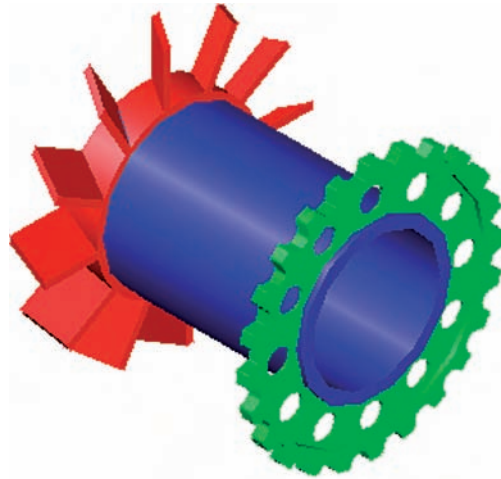

Fig. 16.28 First example – **Printing a single copy**
First example – printing a single copy (Fig. 16.28)
3. *Click* the **Preview** button of the dialog and if the preview is OK, *right-click* and in the *right-click* menu which appears, *click* **Plot**. The drawing plots producing the necessary ‘hardcopy’ (Fig. 16.28).